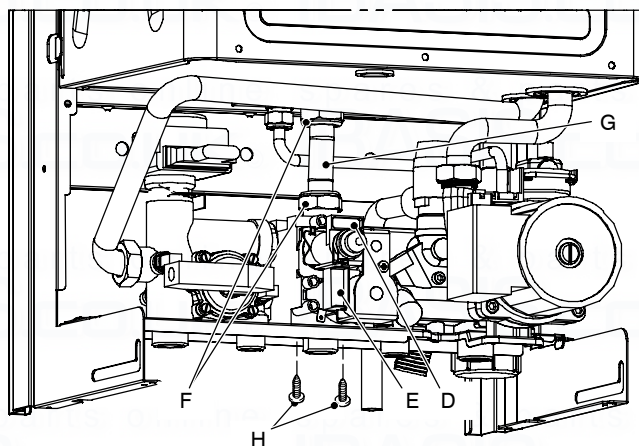

Fig. 57
- 2 Disconnect the connectors *D* (Fig. 57) from the modulating operator and measure the electrical resistance of the coil. Its electrical resistance value must be approx. 114 Ω^* .
- 2 Disconnect the electrical connector *E* (Fig. 57).
- 2 Disconnect the connectors *D* and *E* (Fig. 57).